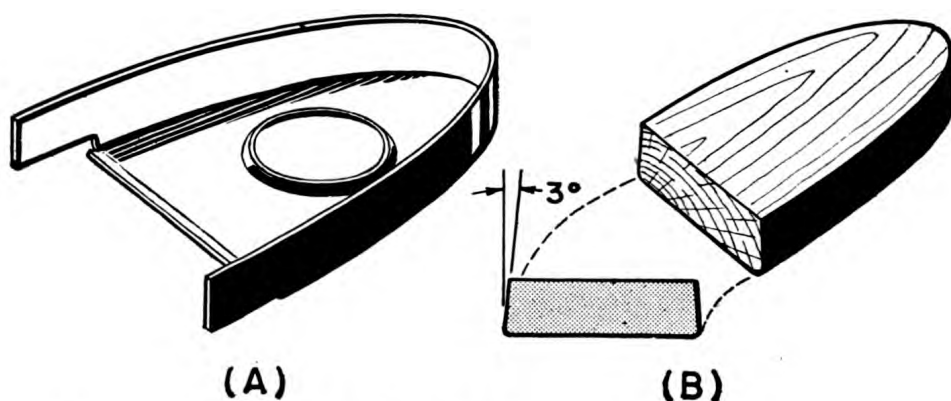

Figure 52.—Making a nose rib.
Suppose you want to make a nose rib like that in (A) of figure 52. The first step is to draw the outline of the rib on two hardwood blocks and then cut them out with a bandsaw. You must round the edge of one block slightly in order to produce the required radius of the bend. Then this same block must be beveled anywhere from 3 to 11 degrees, depending on the spring back—that is, the hardness—of the metal. Figure 52 (B) shows this beveling. Finally, smooth the edges of both blocks with a rasp and sandpaper, or use a circular disk sander if you have one available.